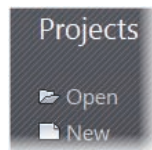

FIGURE 1.4 You can create a new model or browse for an existing one.
3. If you are firing up Revit for the first time, both of these rows will be blank. At the bottom of each row, you can choose to create a new model or open an existing one (see Figure 1.4).